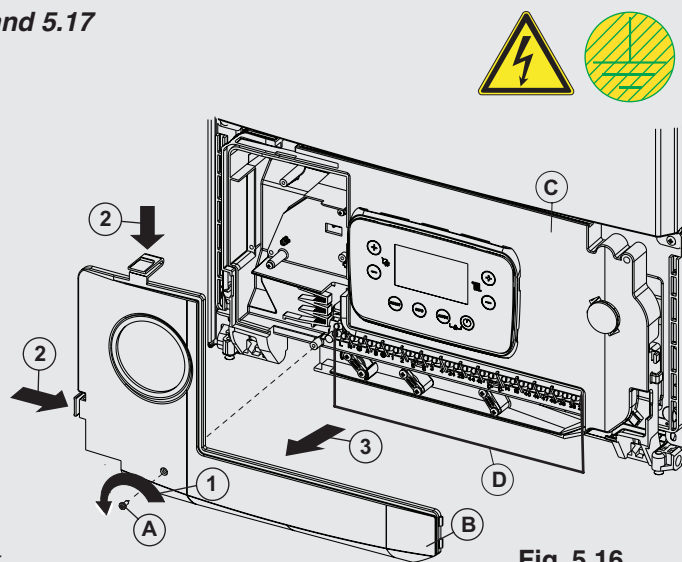

Fig. 5.16
5.11 CONNECT THE MAINS SUPPLY - Figs. 5.16 and 5.17
1. Remove the one screw 'A' in Fig. 5.16.